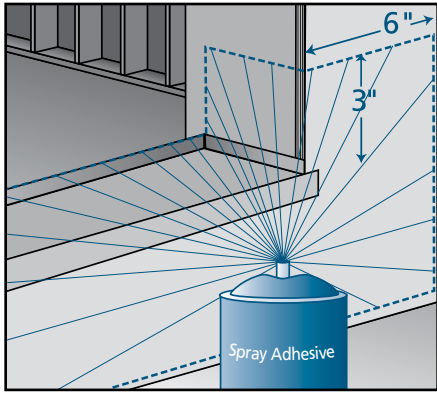

Fig. 6. Apply adhesive spray
1. Coat the sill pan with spray adhesive extending 3" up both side jambs; spray the vertical face of the rise, if applicable, as shown in **Fig. 6**. (Follow manufacturer's instructions for tack time.)